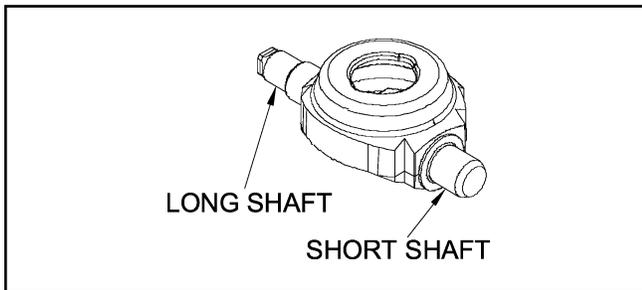

Figure 23.
14. Care must be taken to prevent the scaring or scratching of the center section sealing face during this step. Insert the shaft of the swashplate/pump block assembly (Figure 23) into the housing while simultaneously compressing the pistons in the block. NOTE: To assist in the installation of these components, insert the assembly until 3/4 of the pump block is covered by the center section. Then slightly press the shaft end toward the center section while pushing the shaft into its bore.